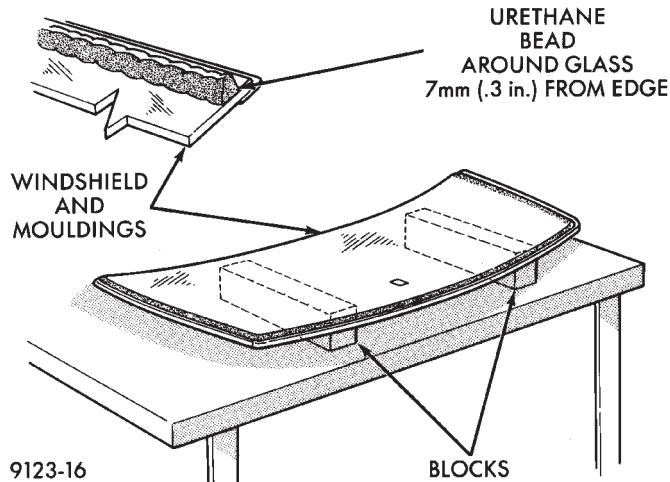
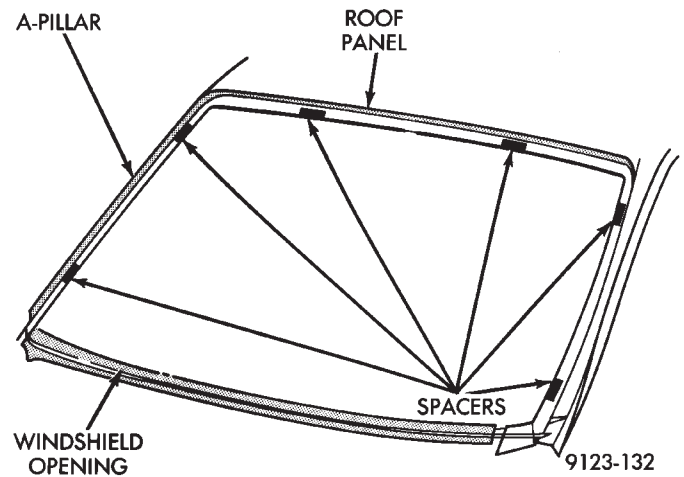
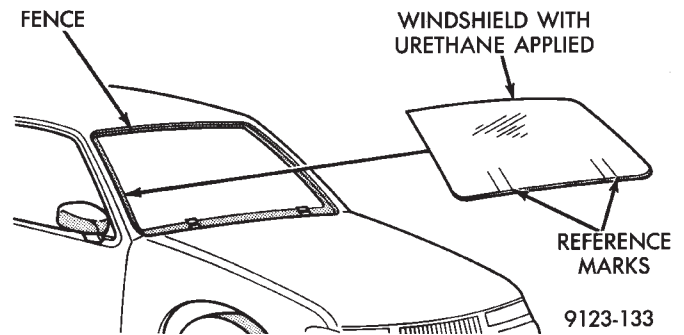

Fig. 6 Work Surface Set up and Molding Installation
Fig. 7 Position Urethane Compression Spacers
Fig. 8 Lower Windshield Into Position
(2) Position the windshield inside up on a suitable work surface with two padded, wood 10 cm by 10 cm by 50 cm (4 in. by 4 in. by 20 in.) blocks, placed parallel 75 cm (2.5 ft.) apart (Fig. 6).
(3) Clean inside of windshield with Mopar® Glass Cleaner and lint-free cloth.
(4) Apply clear glass primer 25 mm (1 in.) wide around edge of windshield. Wipe with clean/dry lint-free cloth.
(5) Apply black-out primer 15 mm (.75 in.) wide on top and sides of windshield and 25 mm (1 in.) on bottom of windshield. Allow at least three minutes drying time.
(6) Position windshield spacers on lower fence above support spacers at the edge of the windshield opening (Fig. 7).
(7) Apply a 10 mm (0.4 in.) bead of urethane around perimeter of windshield along the inside of the moldings.
(8) With aid of a helper, position windshield over windshield opening. Align reference marks at bottom of windshield to support spacers.
(9) Slowly lower windshield glass to windshield opening fence. Guide top molding into proper position if necessary. Push windshield inward to fence spacers at bottom and until top molding is flush to roof line (Fig. 8).
(10) Clean excess urethane from exterior with Mopar®, Super Clean or equivalent.
(11) Install windshield molding. Apply 150 mm (6 in.) lengths of 50 mm (2 in.) masking tape spaced 250 mm (10 in.) apart to hold molding in place until urethane cures.
(12) Install cowl cover and wipers.
(13) Install inside rear view mirror.
(14) After urethane has cured, remove tape strips. Water test windshield to verify repair.